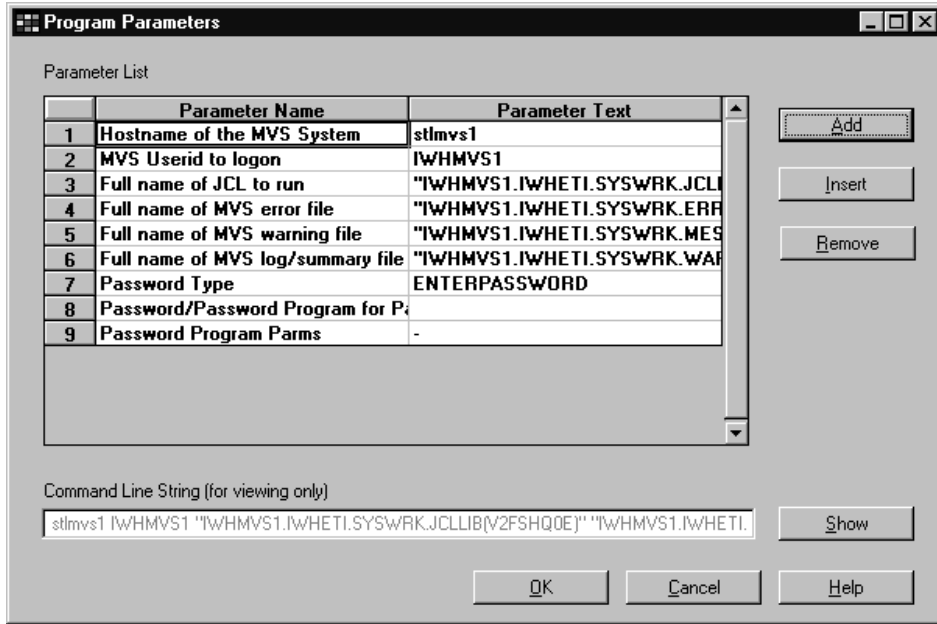

Figure 14. Parameters for the ETI - RUN for MVS Visual Warehouse program
- You see the list of parameters that the Visual Warehouse program requires (see Figure 14).